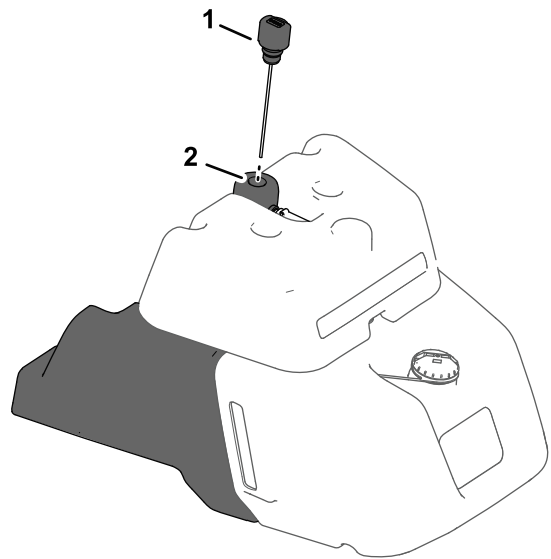

Figure 38
- If your machine has a fuel sight gauge at the side of the fuel tank, locate the dipstick for the hydraulic system at the top of the hydraulic tank (Figure 38) and proceed to step 5.